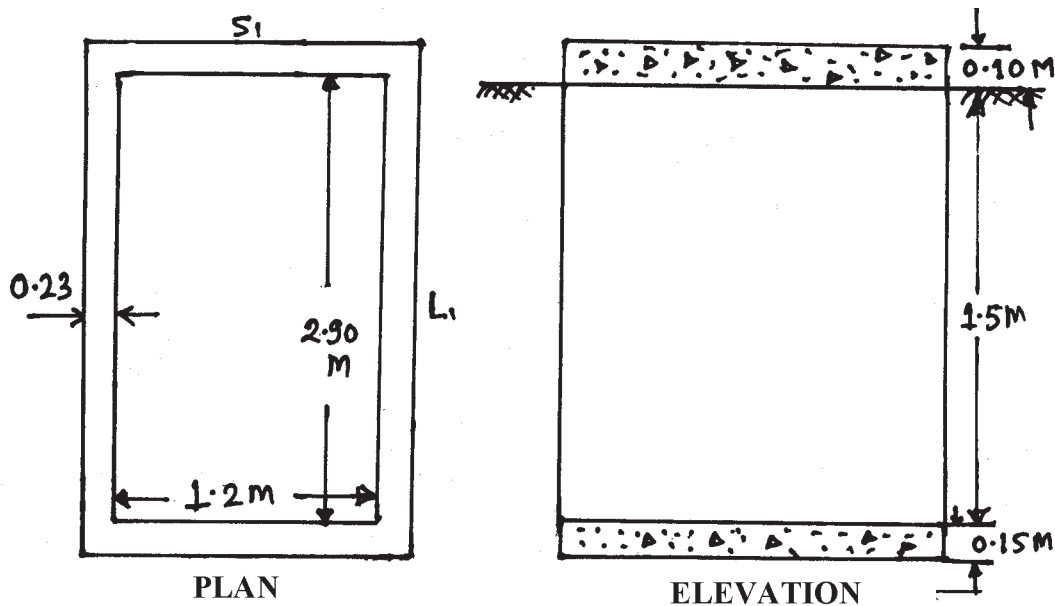

Fig. No. 3
- b) Work out of quantity of following items for septic tank having internal size 1.2m  $\times$  2.9m and height 1.5m. Refer Fig. No. 3.